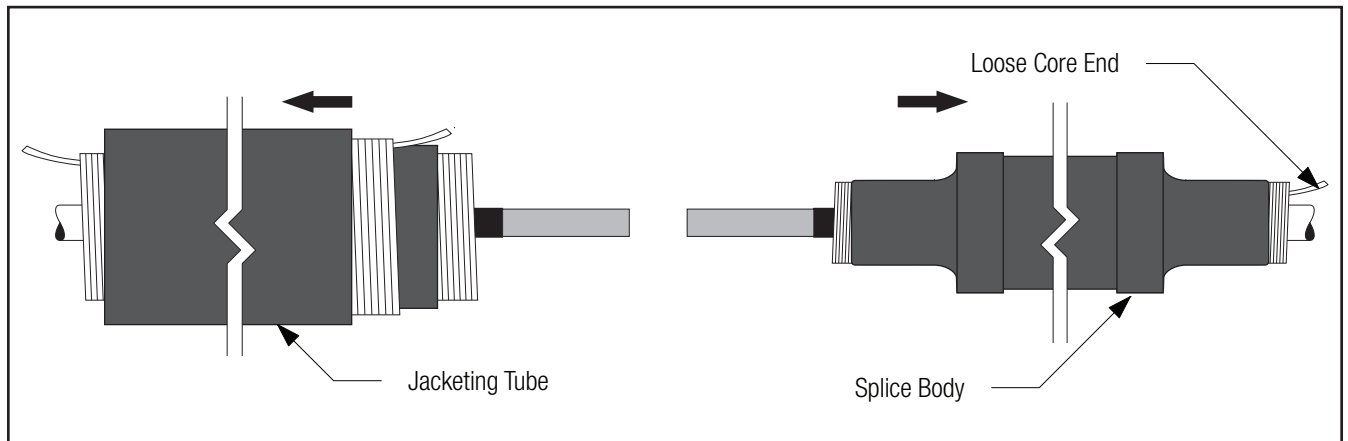

Figure 10
3.1 Clean or cover cable jacket if necessary, for cold shrink parking position. Slide jacketing tube onto one cable end. Slide splice body onto opposite cable, loose core end first. For size transitions, park splice on smaller cable (Figure 10).